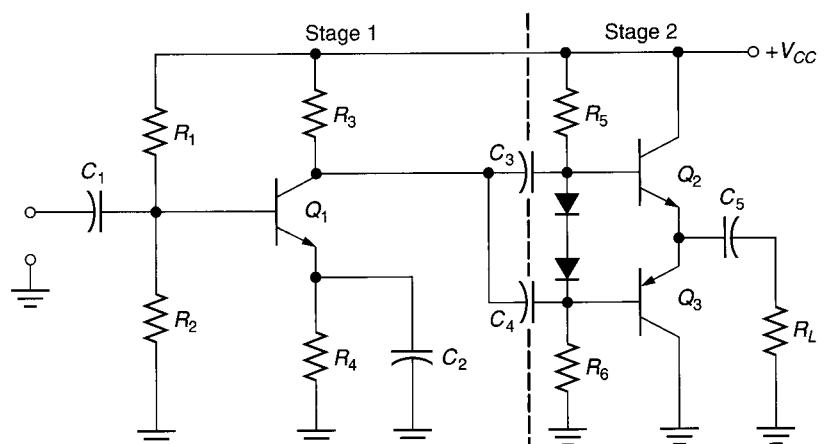

FIGURE 11.33
The first step in troubleshooting a class AB amplifier is the same as with any amplifier: *You must make sure that the amplifier is the source of the trouble.* For example, assume that the two-stage amplifier shown in Figure 11.33 is not working (there is no output signal). For this circuit, *three* checks must be made before you can assume there is a problem with the class AB amplifier:
**Lab Reference:** The operation of a two-stage amplifier similar to the one in Figure 11.33 is demonstrated in Exercise 15.